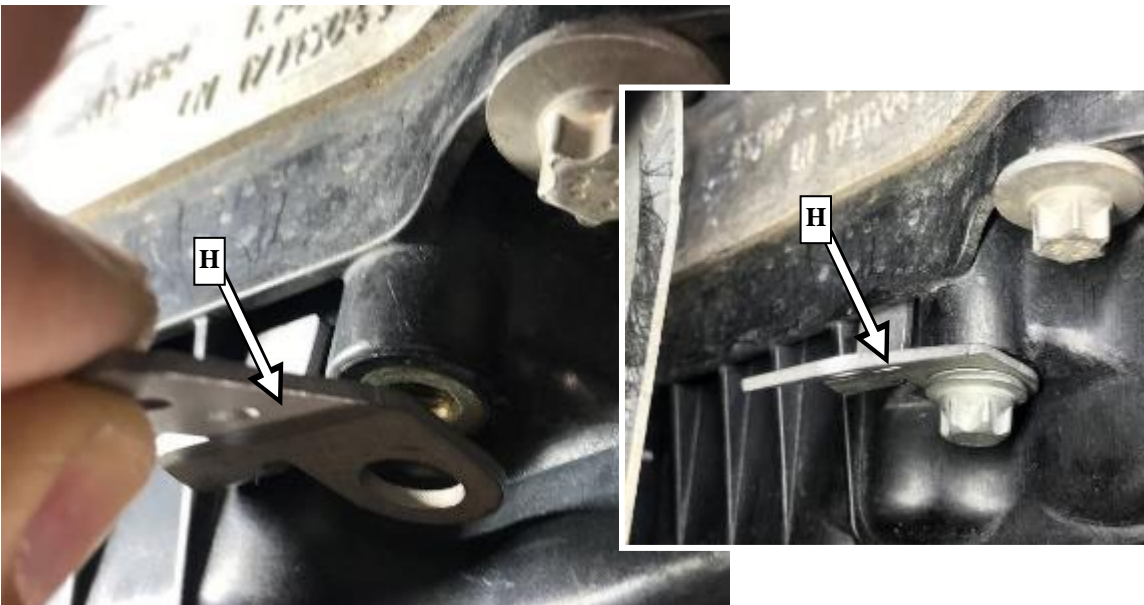

Figure 12
13. In vehicles **without a wiring harness bracket**, attach an additional wiring harness bracket (**Figure 12, H**) with a new screw to the oil pan.